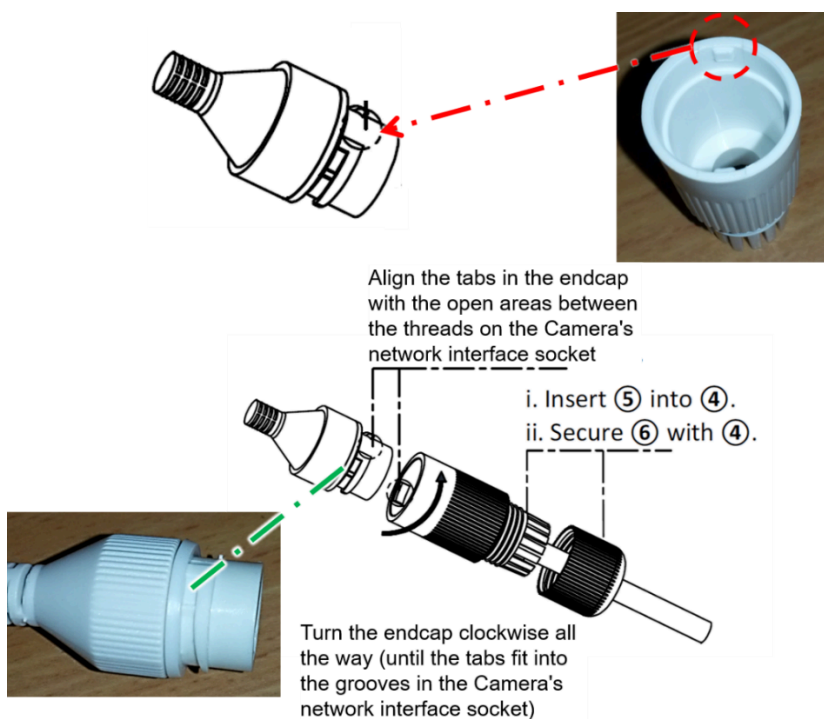

Figure 14. Securing the Waterproof Jacket
5. Align the tabs in the endcap with the open areas between the threads on the camera's network interface socket (see Figure 14).
6. Turn the endcap clockwise all the way (until the tabs fit into the grooves in the camera's network interface socket). See Figure 14.